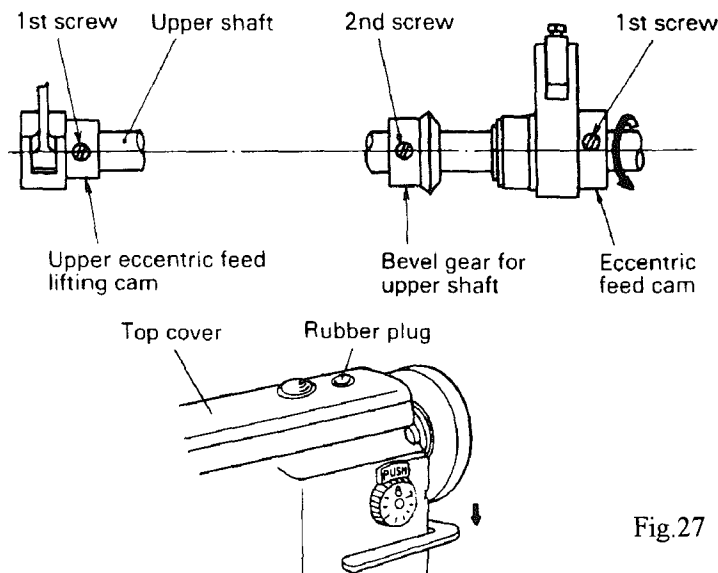

Fig.27
### 23. Adjustment of feed timing (Fig.27):
- 1) The standard position of the eccentric feed cam and eccentric feed lifting cam are illustrated to Fig.27